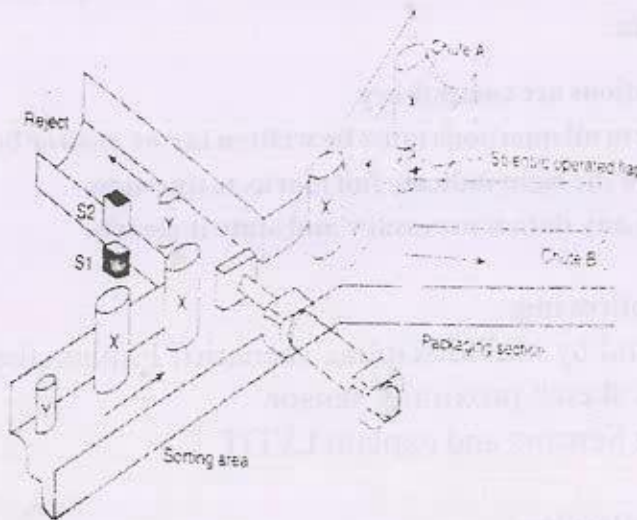

Figure 5B
- b) Develop a programmable ladder logic diagram for detecting, Sorting and packaging unit, list input and output Devices used in circuit. Ref. Figure 5B. [12]